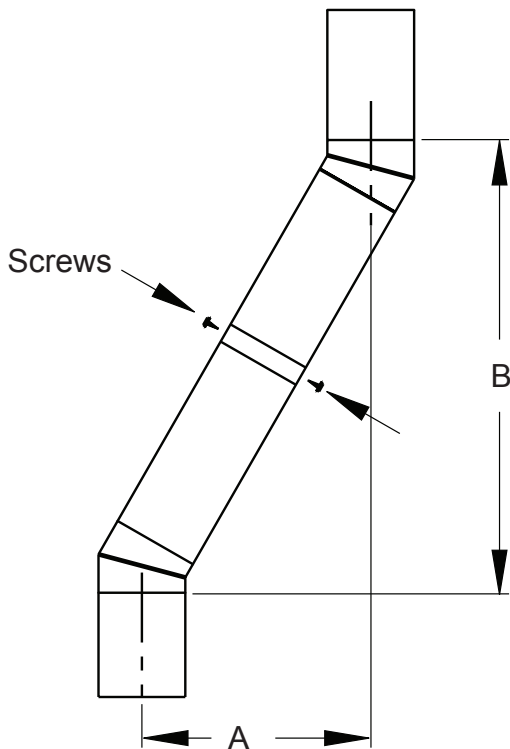

Figure 7 - Elbow Offset
Continue to assemble chimney sections as outlined, making sure that both inner and outer pipe sections are locked together. When installing double wall snap-lock chimney together, it is important to assure joint between chimney sections is locked. Check by pulling chimney upward after locking. Chimney will not come apart if properly locked. It is not necessary to add screws to keep chimney together (exception - see Figure 7).
4. All pipe connections between offset and return must be secured with two screws on outer pipe only (see Figure 7). Do not penetrate inner stainless.